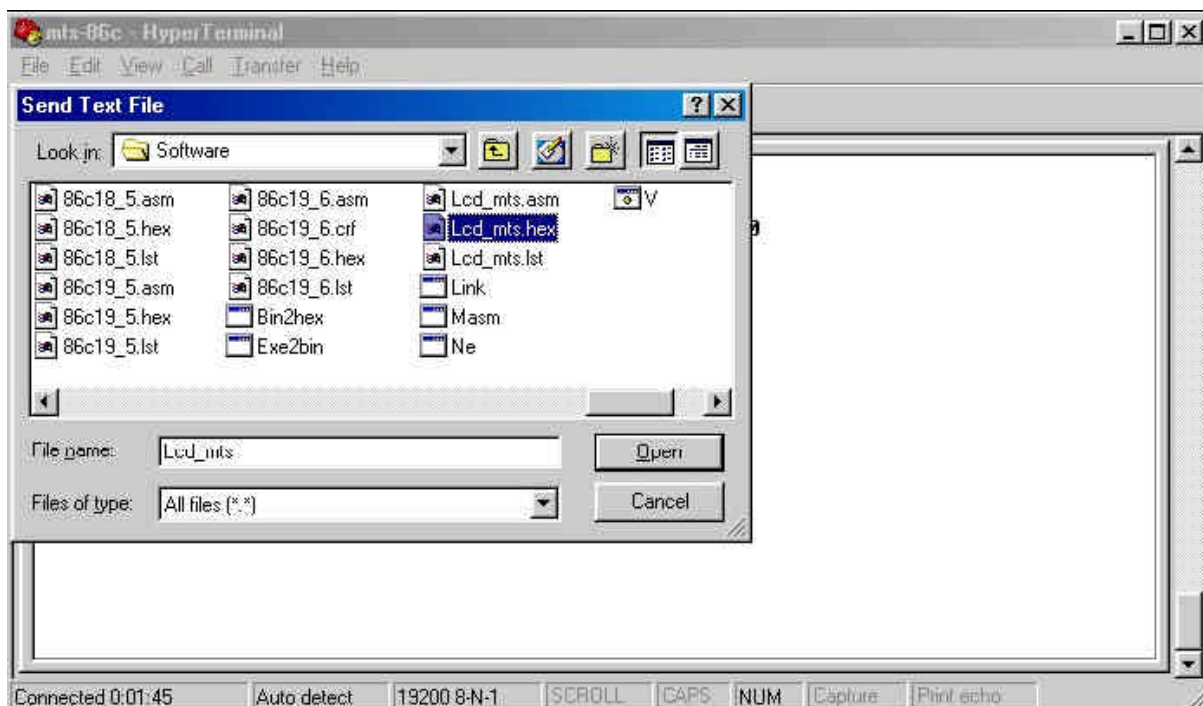

Fig. 1.18 Selecting the HEX file
- i) Browse the *.hex file, as shown in Fig. 1.18